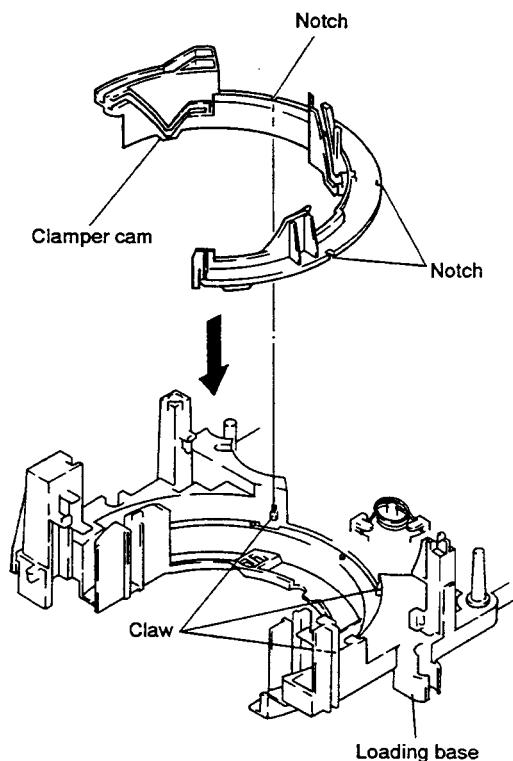
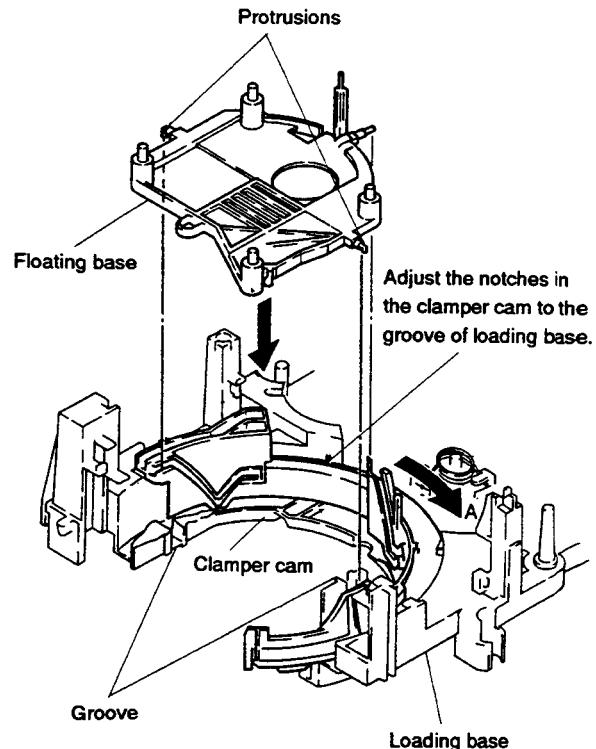

Fig. 2-1
Fig. 2-2
(1) As shown in Fig. 2-1, adjust the notches (3 points) in the clamper cam to the claws (3 points) of the loading base, and set the clamper cam to the position as the arrow shows.
(2) After adjusting the notches in the clamper cam to the claws (3 points) showing in Fig. 2-1, place the protrusions of the floating base on the grooves (2 points) of loading base as the arrow shows in Fig. 2-2.